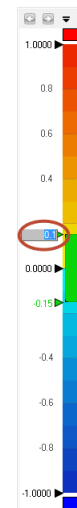

Figure 31
- **Double click** on the **0.1** in green, as shown in **Figure 31**, to alter the value.